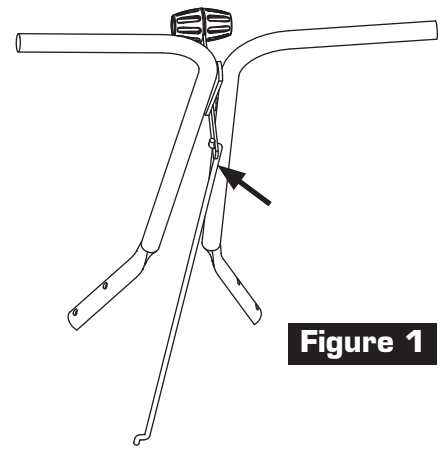

Figure 1
1. Install Linkage to Lever as shown, Figure 1.